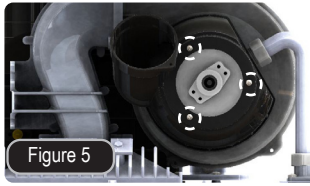
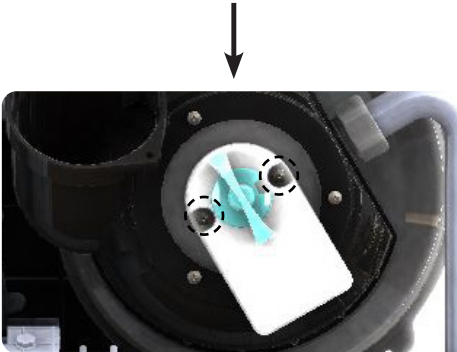

Figure 5
Figure 12
6. Loosen 3 screws to remove 'AGM cover'. See Figure 5.
12. Assemble remaining parts. See Figure 9 for the correct assembly order. For AGM placement, see Figure 12. Assemble the air pipe, see Figure 3. For AGM cover, see Figure 5.